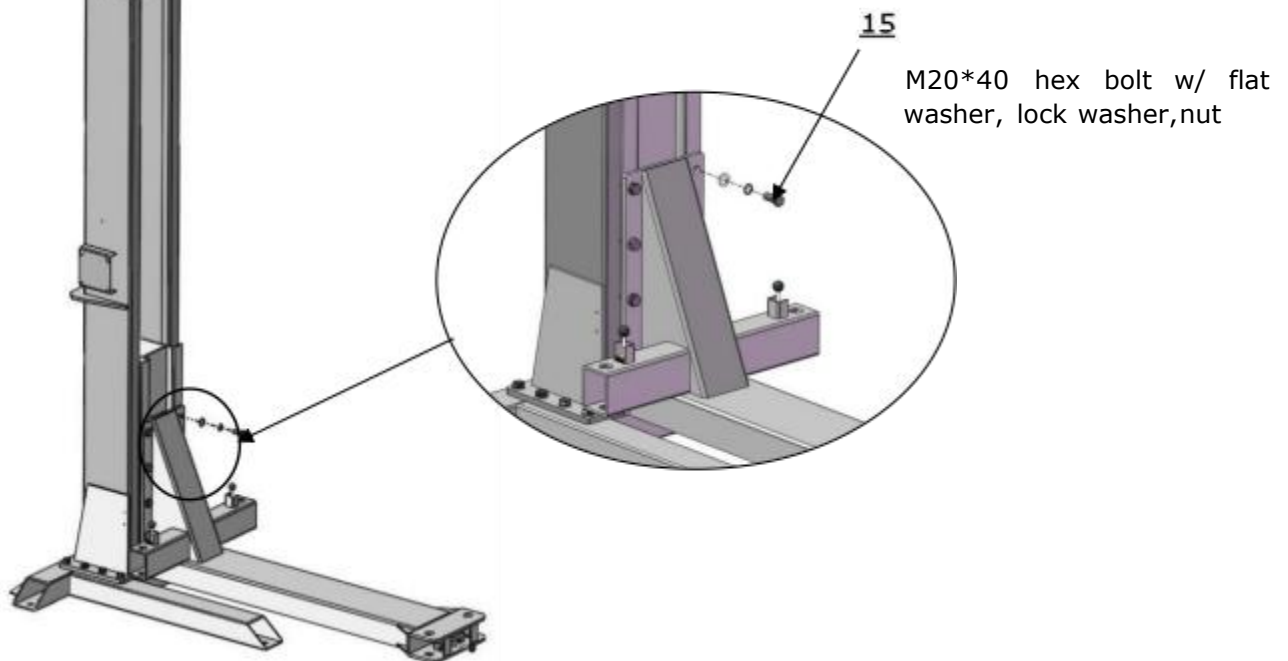

Fig.16
4. Fix lifting platform to carriage. (See Fig.16)